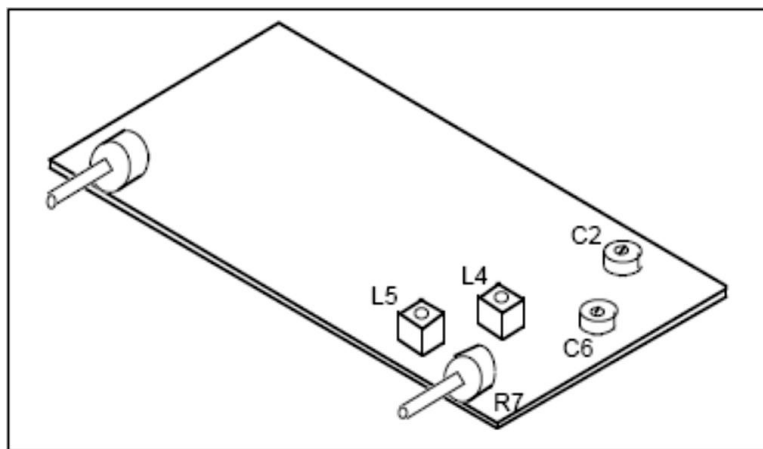

Figure 17. Locations of the variable capacitors and inductors
4. ☐ Set the TUNING control to the 20.0 MHz position. *Carefully* adjust inductor L5 (Figure 17) with the plastic tuning stick (hexagonal tip) until a loud low frequency tone is heard (set volume control as desired). Tune the slug about 3.5 turns clockwise to hear the tone. (Hint - Put a tape “flag” or a mark on the tuning stick to help count turns). We have observed that in some receivers as the slug in L5 is turned there are a couple settings that produce very weak tones and one much louder tone. It’s the loudest one that you are looking for. The loudest tone will be